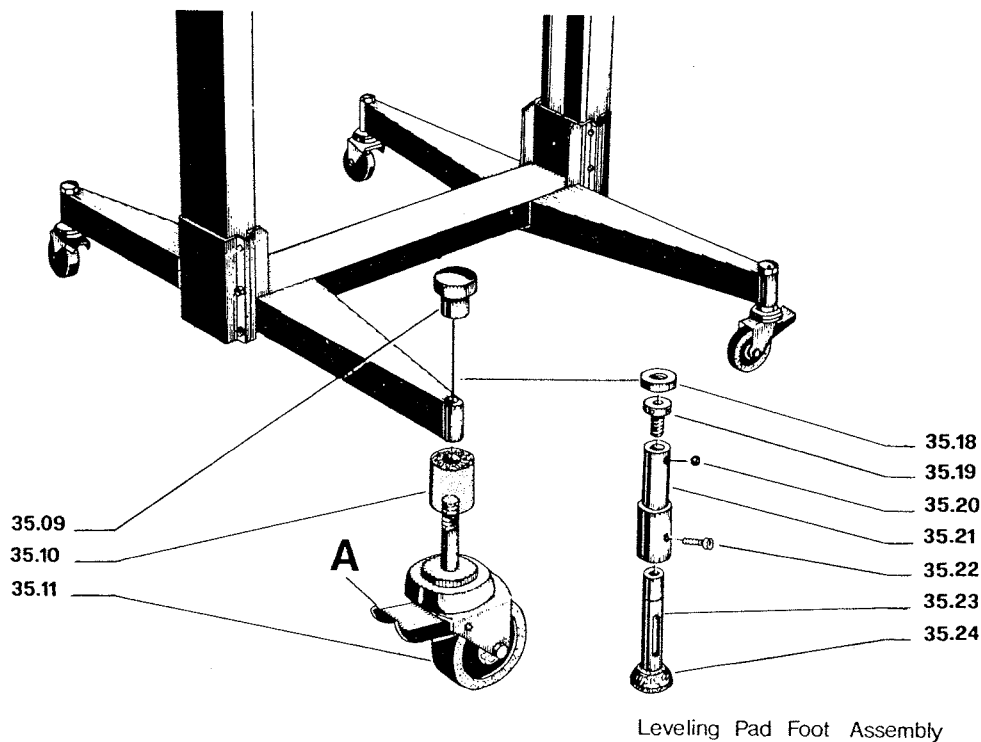

FIGURE 1 - CASTER INSTALLATION
INSTALLATION INSTRUCTIONS - Refer to Figure 1.
1. After positioning the box sealer in the desired location, the casters can be locked by pushing down on the brake lever (A) shown in Figure 1.